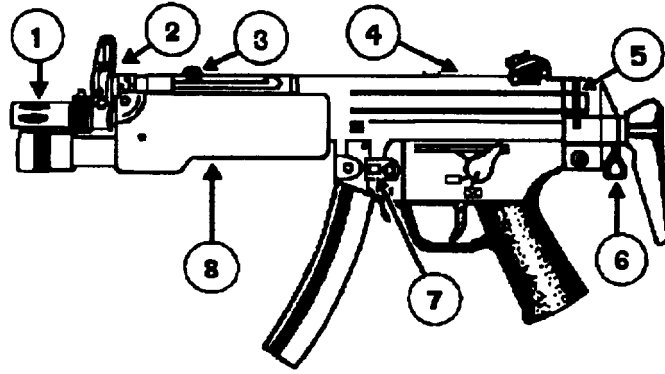

Figure 1-1. MP5N Submachine Gun - Left Side
a. The left side of the MP5N, Figure 1-1, reveals flash suppressor (1), front sight (2), charging handle (3), serial number location (4), sling connection (5), locking catch (6), magazine catch (7), and hand guard (8).